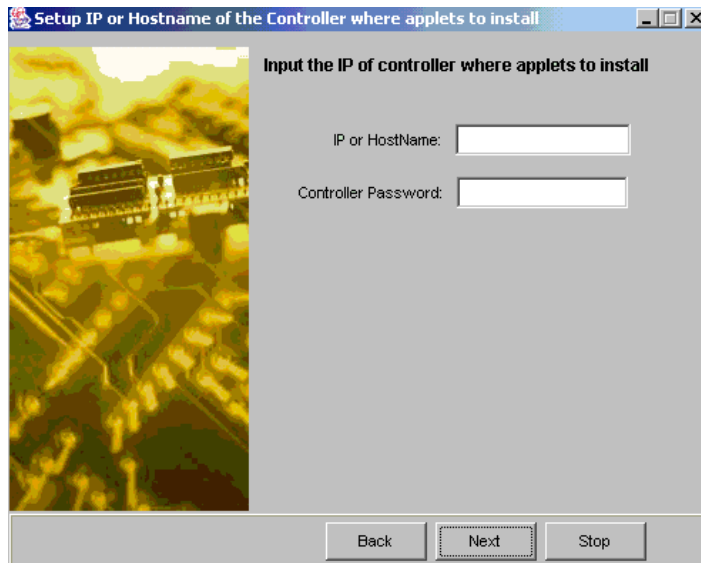

Figure 3-11: Input IP and Controller Password
Step 1. As shown in *Figure 3-11* above, enter the IP address or the host name of the controller/subsystem and the controller password in their respective fields. The default for the controller/subsystem IP or password is blank. The preset IP and password should have been configured along with other configuration utilities before proceeding with RAIDWatch installation.
-  **Step 4.** If you wish to immediately access the RAIDWatch manager, open a web browser and type in the IP address that you used in *Figure 3-11*.
where **`www.xxx.yyy.zzz`** is the IP address entered in *Figure 3-11*.